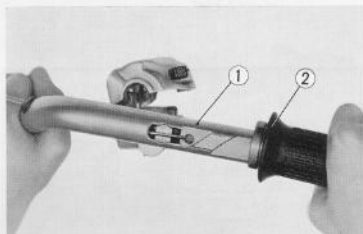

Fig. 4.15 Assembling throttle grip
- a. Apply grease on both the inside and outside of the pipe where the throttle grip is to be installed. This is to lubricate the movement of the throttle grip ② and its component parts. (Fig. 4.15)